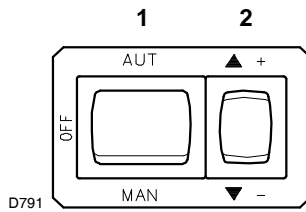

Fig. 22
- Start the burner by closing the control devices, with switch 1)(Fig. 22) in the "MAN" position and with switch 6)(Fig. 6 at page 12) in the "OIL" position.
- Stop the burner: switch 1)(Fig. 22) set to "OFF" and tighten the screw 3).